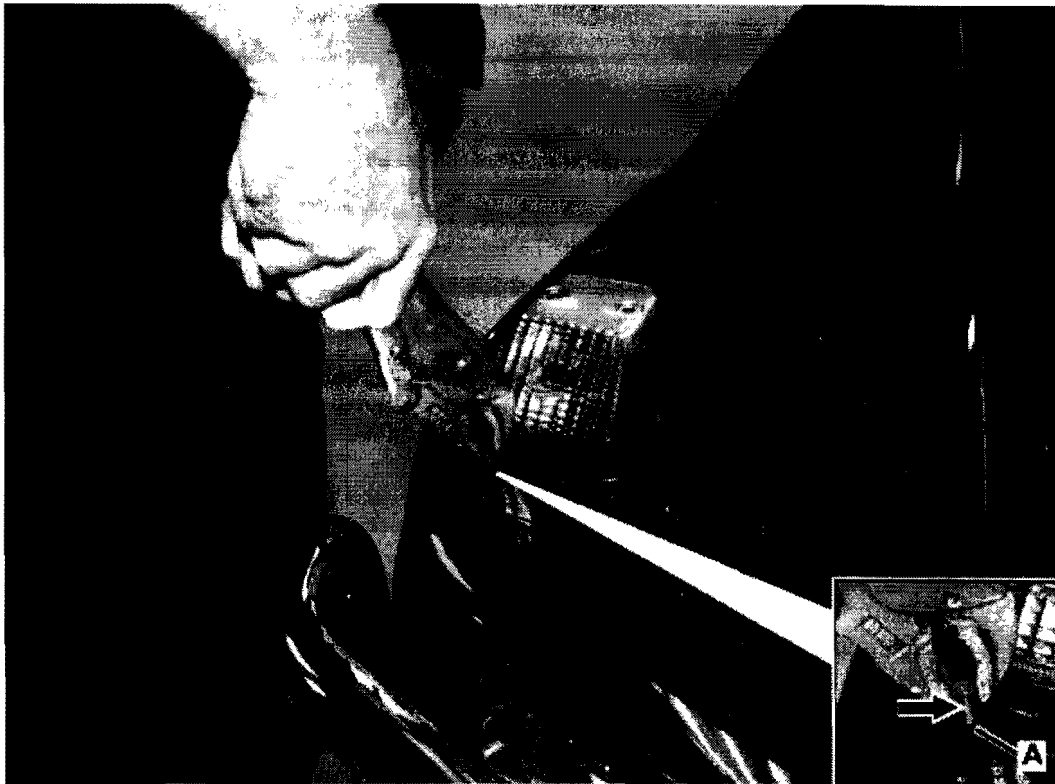

Figure 2
5. Install previously removed torx screw (arrow, Figure 2) 2 turns into body anchor (A) using torx screw driver.
6. Pull body anchor (A, Figure 2) out from fender using locking pliers. Repeat steps 5 and 6 for remaining two body anchors.
- Place all parts removed in steps 1-6 in a plastic bag (arrow, Figure 2) then store parts in storage compartment under right rear seat (A). Secure parts with strap (B) then lower seat into locked position.